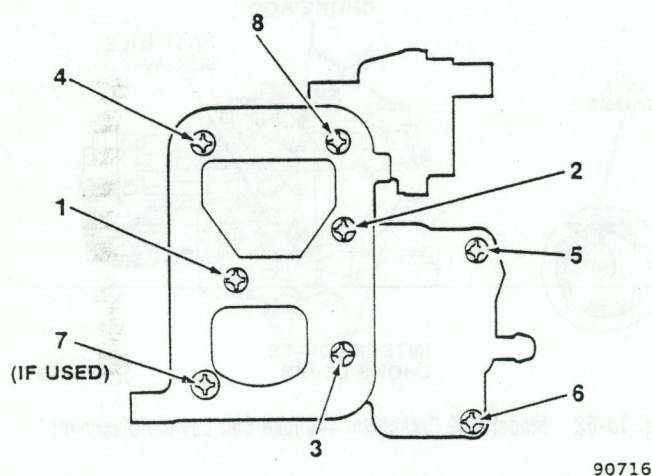

Fig. 1J-50 Model 2SE Carburetor—
(24) Install pump return spring in pump well.
(25) Install pump plunger assembly in pump well.
(26) If removed, install choke shaft, choke valve and two attaching screws. Tighten screws securely and stake lightly in place.
(27) If removed, install plastic bushing in lower hole in choke lever ensuring small end of bushing faces retaining clip when installed. With inner choke coil lever at 12 o'clock position, insert end of fast idle cam rod through bushing in lever. Retain with new clip. Press clip in place using needlenose pliers. Ensure clip has full contact on rod, but is not seated tightly against bushing. Rod-to-bushing clearance should be 0.030 inch (0.8 mm).
(28) If removed, install plastic bushing in hole in vacuum break lever ensuring small end of bushing faces retaining clip when installed. Next, insert end of vacuum break rod through bushing in lever. Retain with new clip. Press clip in place with needlenose pliers. Ensure clip has full contact on rod, but is not seated tightly against bushing. Rod-to-bushing clearance is 0.030 inch (0.8 mm).
(29) If removed, install plastic bushing in hole in air valve lever. Ensure small end of bushing faces retaining clip when installed. Next, insert end of air valve rod through bushing in lever. Retain with new clip. Press clip in place with needlenose pliers. Ensure clip has full contact on rod, but is not seated tightly against bushing. Rod-to-bushing clearance is 0.030 inch (0.8 mm).
(30) Rotate fast idle cam to full UP position and tilt air horn assembly to engage fast idle cam rod in slot in fast idle cam (fig. 1J-32). Next, holding down on pump plunger assembly, carefully lower air horn assembly onto float bowl while guiding pump plunger stem through hole in air horn casting.
(31) Install vent screen assembly on air horn assembly (fig. 1J-31) and install six air horn-to-bowl attaching screws and lockwashers.
**NOTE:** Three medium long air horn screws are installed in the primary and secondary venturi area. The two longer screws hold the vent screen assembly in place. The two short screws are installed on the fuel inlet side. One short screw is installed in the area beneath the hot idle compensator valve. All air horn screws must be tightened evenly and securely. Refer to figure 1J-50 for proper tightening sequence.